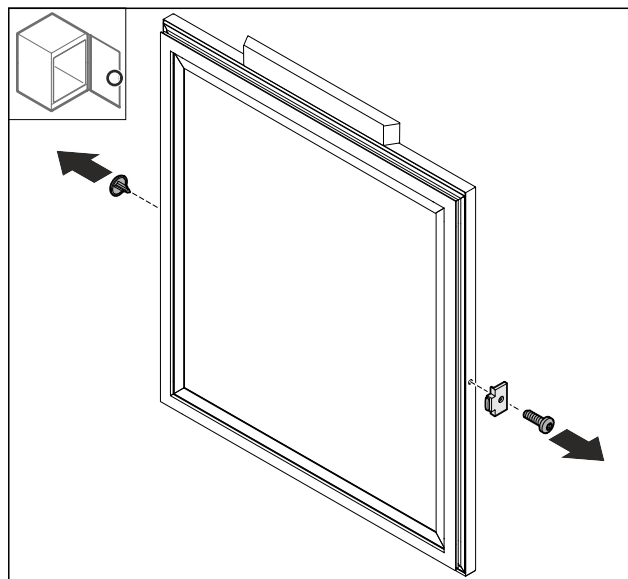

Fig. 44
- Remove the Fig. 44 (1) cover.
- Pull off the door stopper Fig. 44 (2).